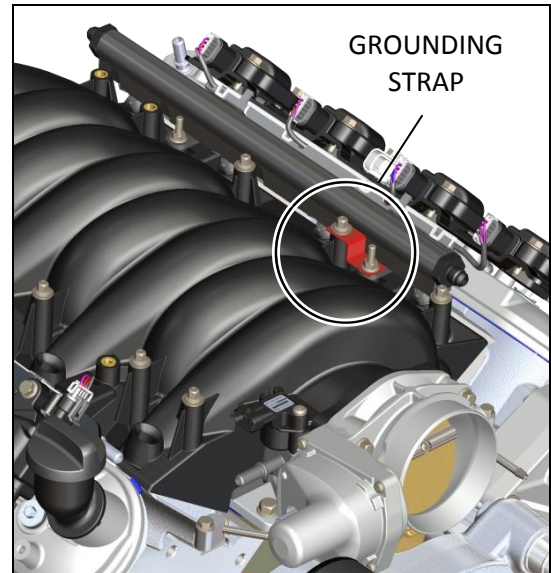

Figure 7
16. Reinstall the four rail mounting bolts. Add a grounding strap for each fuel rail from one of the intake bolts to a rail mounting bolt (Figure 7).